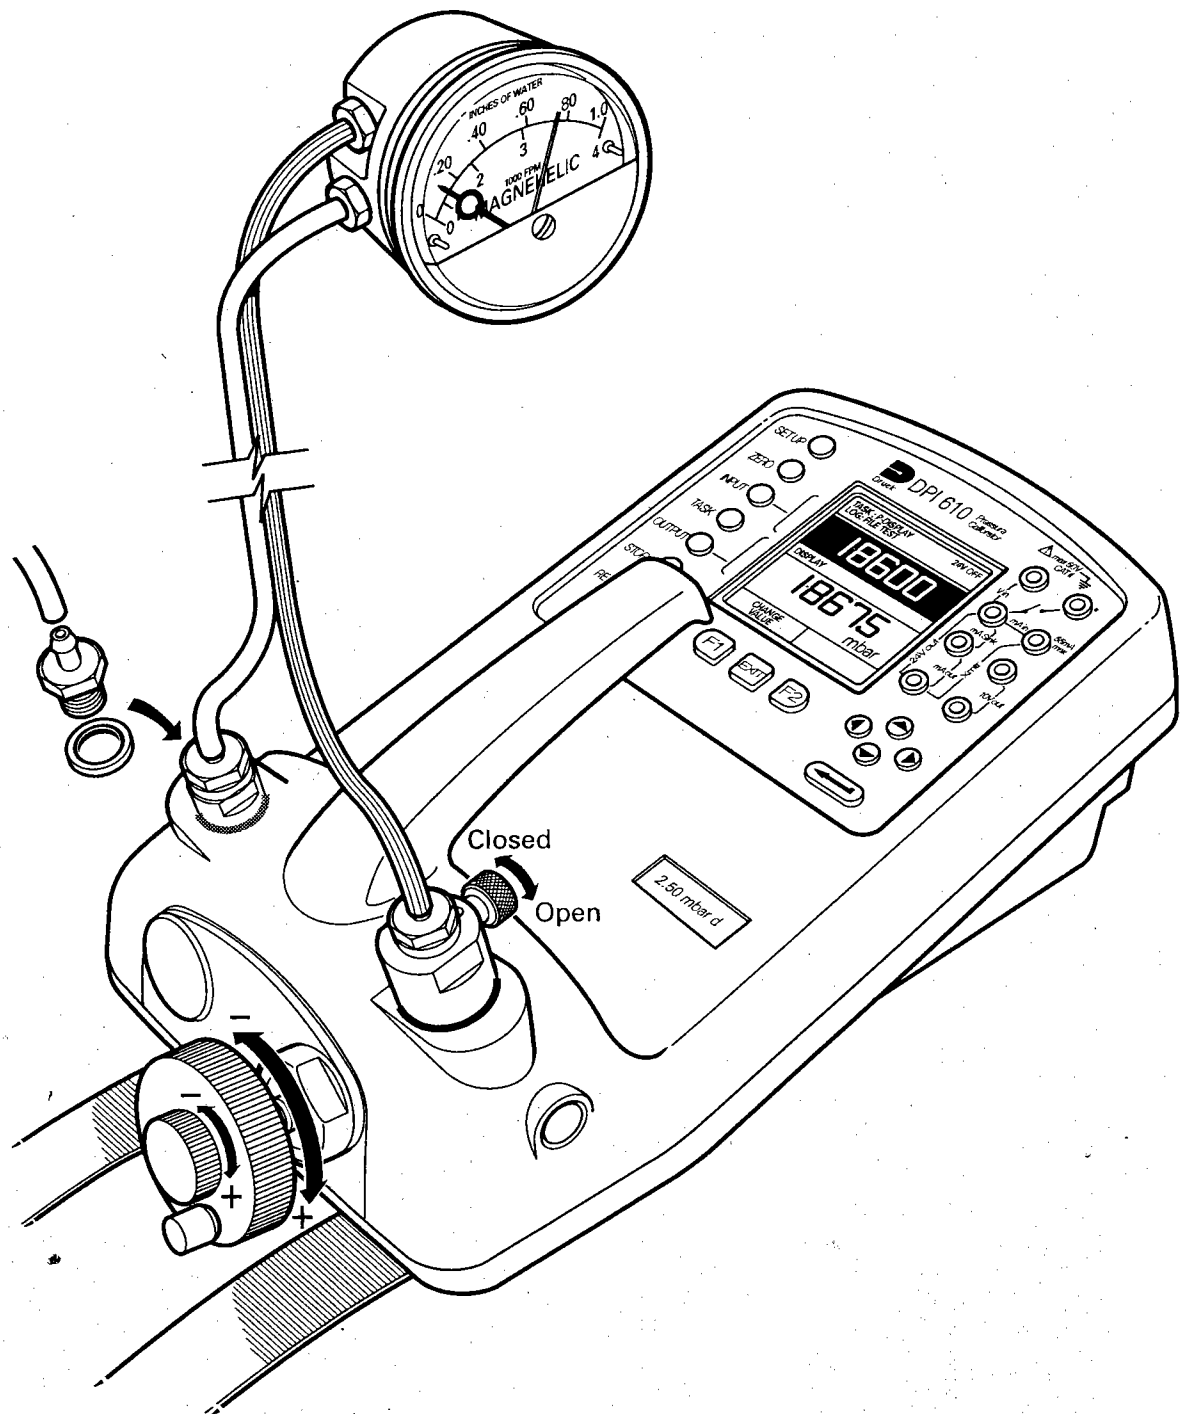

Figure B2 - DPI 610LP Test Connections
- ❑ Fit the an appropriate pressure fitting to both the positive (+) and negative (-) ports using a bonded seal as shown in Figure B2. Ensure that both fittings are tight.
Note: To minimise temperature effects, always use double tubing, separating the arms of the tubing only by the minimum amount necessary to make the pressure connections. A typical application, P-DISPLAY, showing test connections to a Magnehelic pressure gauge are shown in Fig.B2.